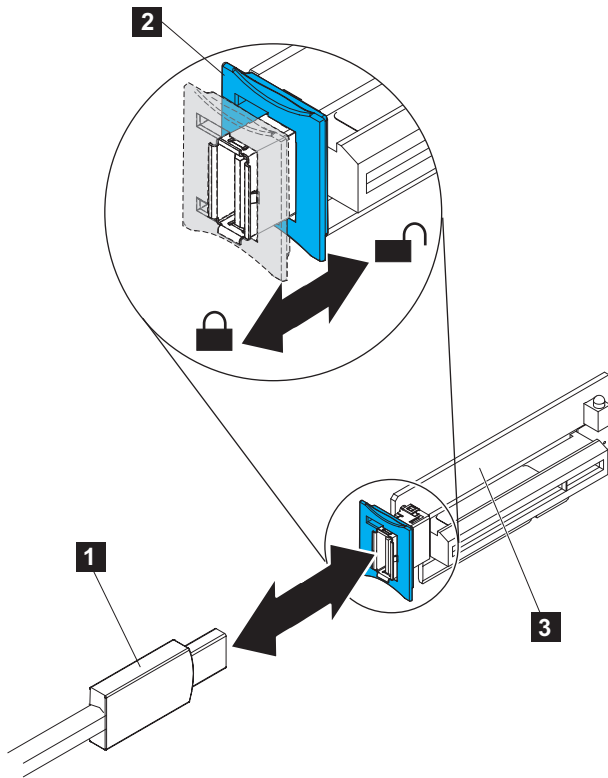

Figure 78. USB service-controller cable connector on the USB riser card
- c. Grasp the blue lockbar (**2** in Figure 78 on page 91) and slide it toward the USB riser-card assembly (**3**) to the unlock position and remove the USB cable (**1**) from the connector.
- b. Align the USB service-controller cable ( **1** in Figure 78) with the connector on the USB riser-card assembly ( **3** ) and push it into the connector until it is firmly seated.